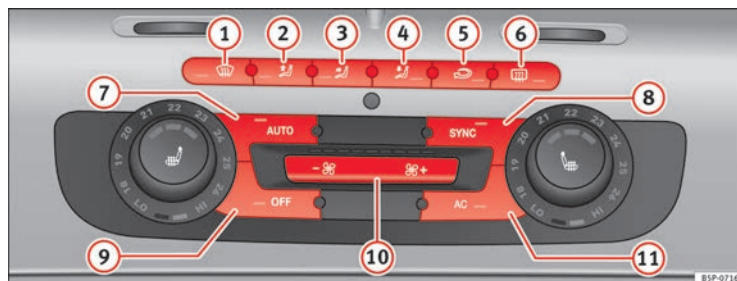

Fig. 131 On the dash panel: 2C Climatronic controls
- Turn the temperature control knobs ⇒ Fig. 131 to adjust the temperature on the left hand side or the right hand side respectively. ►
- Press the **AUTO** ⇒ Fig. 131. “AUTO High” is shown on the radio display (high fan speed).
- Press the **AUTO** button again ⇒ Fig. 131. “AUTO Low” is shown on the radio display (low fan speed).